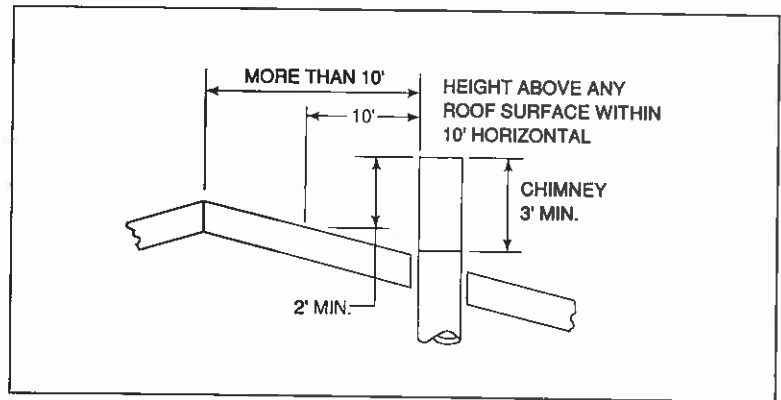

Figure 9
- If the horizontal distance from the side of the chimney to the peak of the roof is more than 10 feet, a chimney height reference point is established on the surface of the roof a distance of 10 feet from the side of the chimney in a horizontal plane. The top of the chimney must be at least 2 feet above this reference point, but never less than 3 feet in height above the highest point where it passes through the roof. See Figure 9.